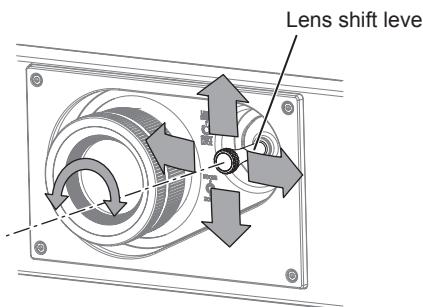

Fig. 1
- 3) Adjust the lens shift. (Fig. 1)